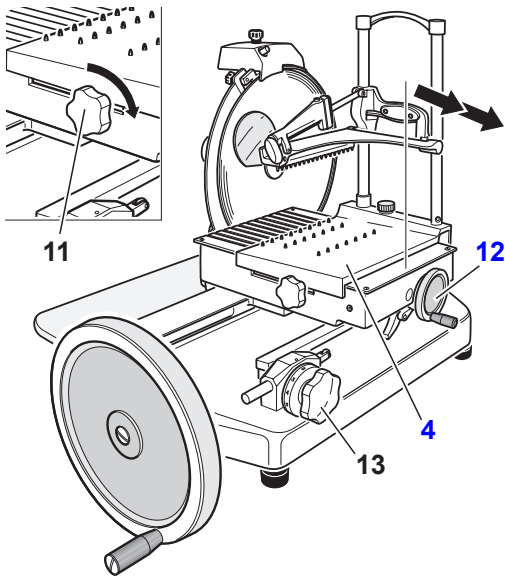

Figure 14-1
8. Turn the product holder operating handwheel (12) or fast forward knob (11) clockwise to move the product holder (4) away from the knife (16) (Figure 14-1).